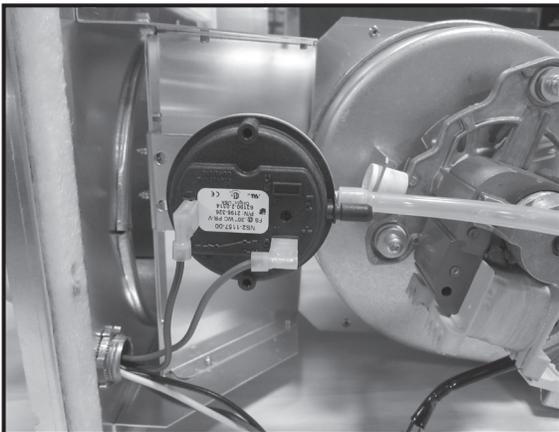

Figure 3.11
- Attached the red and white wires to the pressure switch. See Figure 3.11.